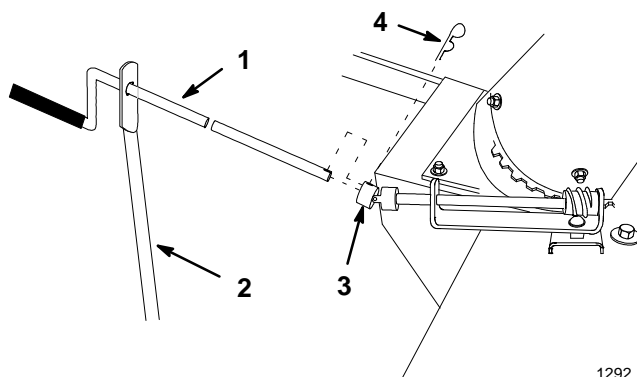

Figure 13
3. Remove hairpin cotter at U-joint and slide crank handle out of support (Fig. 13).